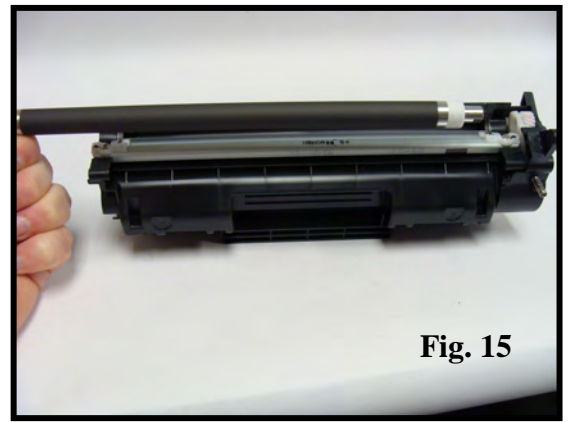

Fig. 15
15. Remove the mag roller from the hopper (Fig. 15).